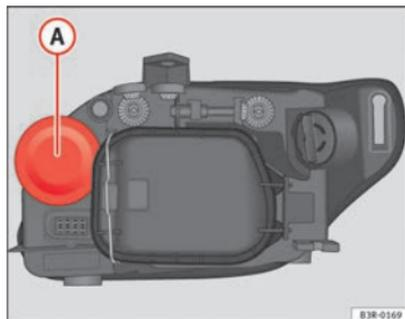

Fig. 195 Main beam headlights
- Pull up on the rubber cover **A** ⇒ Fig. 195 to remove it.